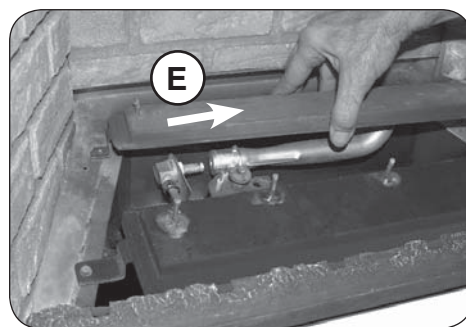

Fig. 52-2 Remove burner
5. Remove burner by sliding it to the right, so that the venturi tube clears the orifice, then fully out. See Fig. 52-2, "E".